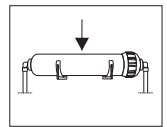

Fig. 10
- 5) Push in filter cartridge into the mounting clips (Fig.10).